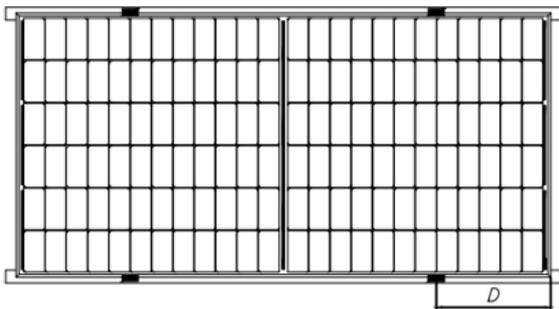

Fig.3 Rails overlapping the long-side frame
When double-sided PV modules are installed, each PV module must be fixed with at least 4 presses, as shown in Figures 3 、 4、 5
⑧ For the installation method shown in Fig. 3, the module needs to be fixed with professional clamps (as shown in Fig. 9), and the overlap between the C side of the module and the rail should be ≥ 15 mm. Astronergy's limited warranty will be void if